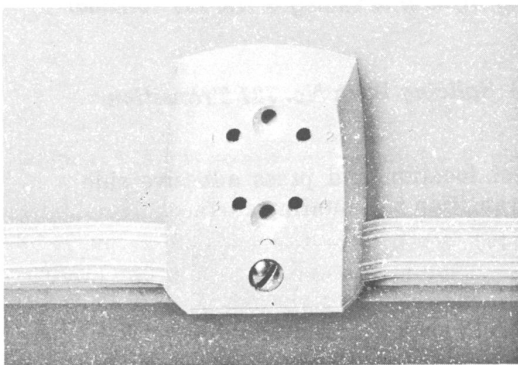

Fig. 14 — No. 719 Jack
- (1) Install the jack (Fig. 14) in the same way as the No. 717 terminal.